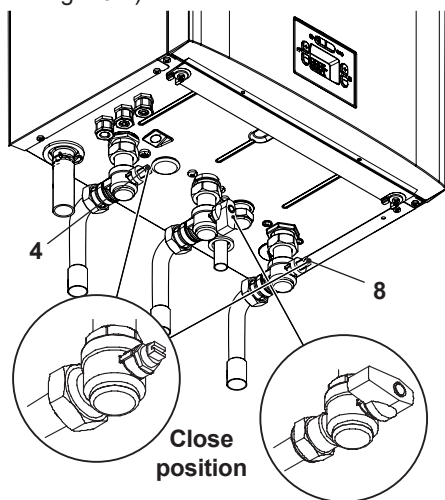

Fig. 10.7
- Close the C.H. isolating valves (4 and 8 in Fig. 10.7).